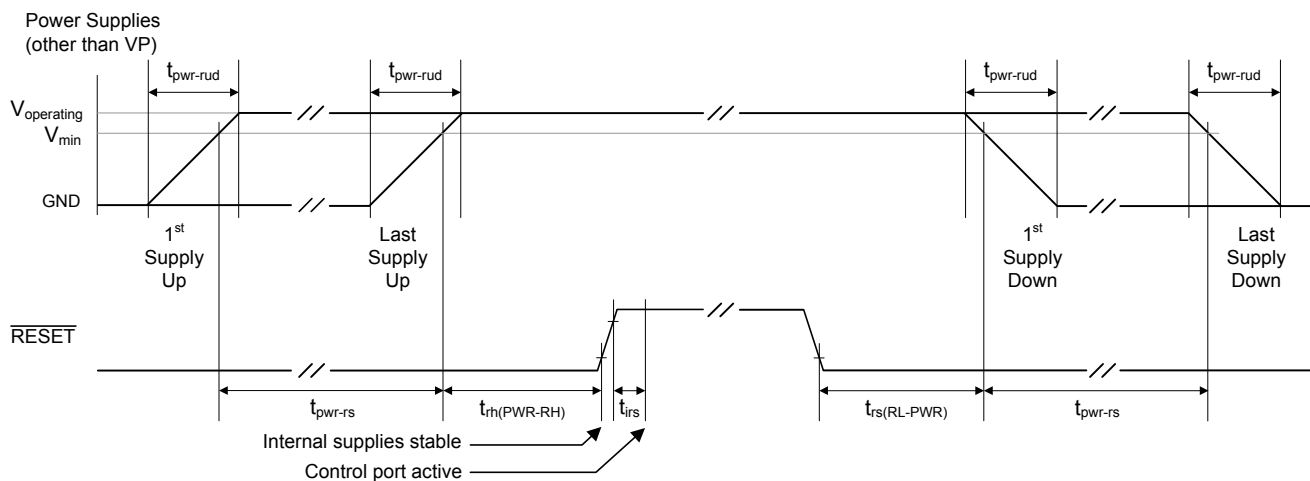

Figure 10. Power and Reset Sequencing
52. Refer to Figure 10 on page 36.